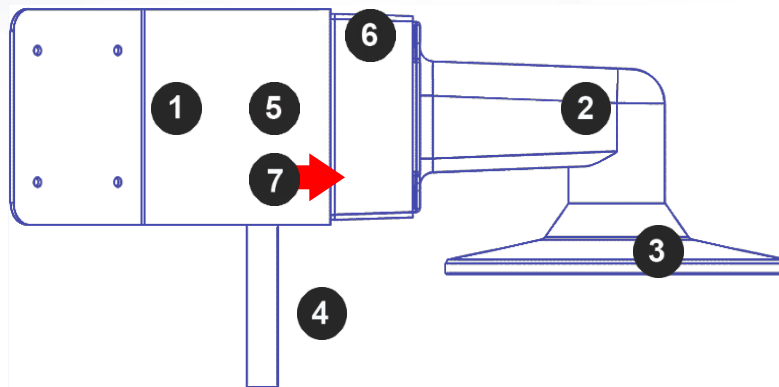

Figure 2: Attach corner mount adapter to exterior corner wall
6. Attach the Wall Mount Adapter (AV-WMJB-W) with mount cap (SO-CAP-W) to the Corner Mount Adapter (AV-CRMA-W) as shown in Figure 2.